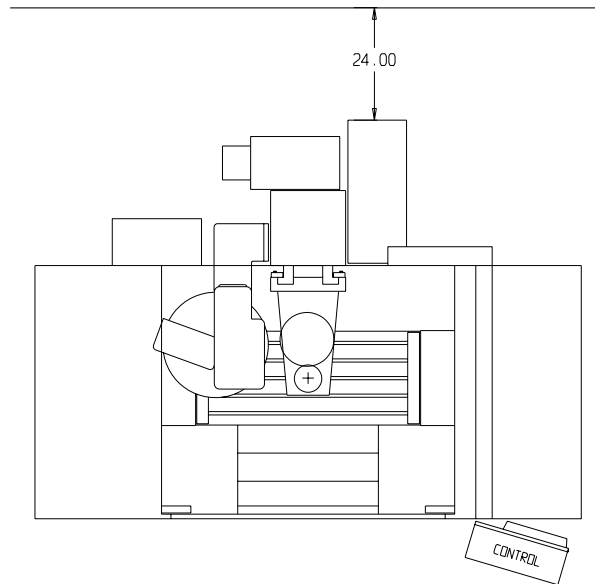

Figure 2-3 24" Minimum Clearance Behind VMC
- 2) Ensure there is adequate room behind the VMC to fully open the rear cabinet door. Minimum clearance behind the machine is two feet (24"/60.96 cm.) (See Figure 2-3).